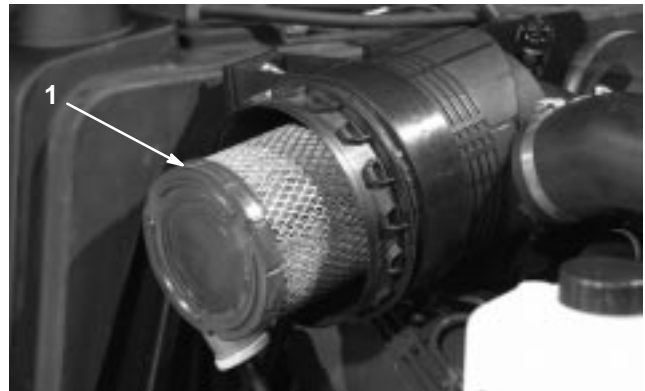
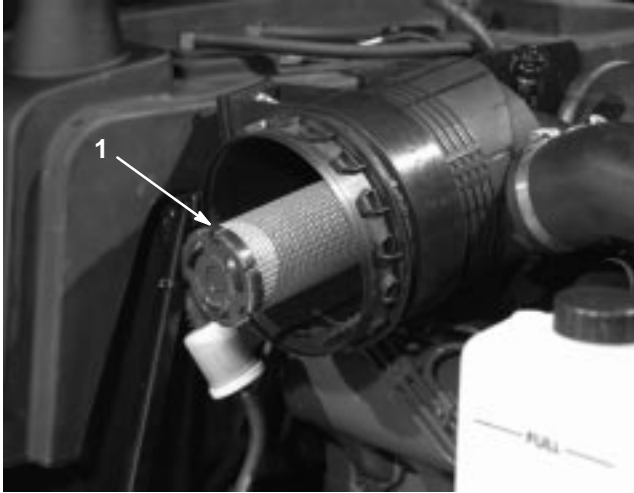

Figure 44
Figure 45
2. Gently slide the primary filter (Fig. 44) out of the air cleaner body to reduce the amount of dust dislodged. Avoid knocking the filter against the air cleaner body. **Do not** remove the safety filter (Fig. 45).
Important Never attempt to clean the safety filter (Fig. 45). Replace the safety filter with a new one after every three primary filter services.